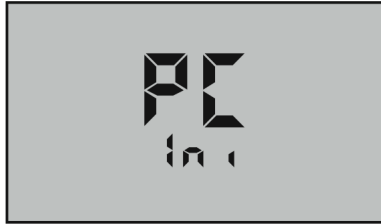

Figure 26
**NOTE:** “PC Ini” may momentarily be displayed while initializing (see Figure 26).